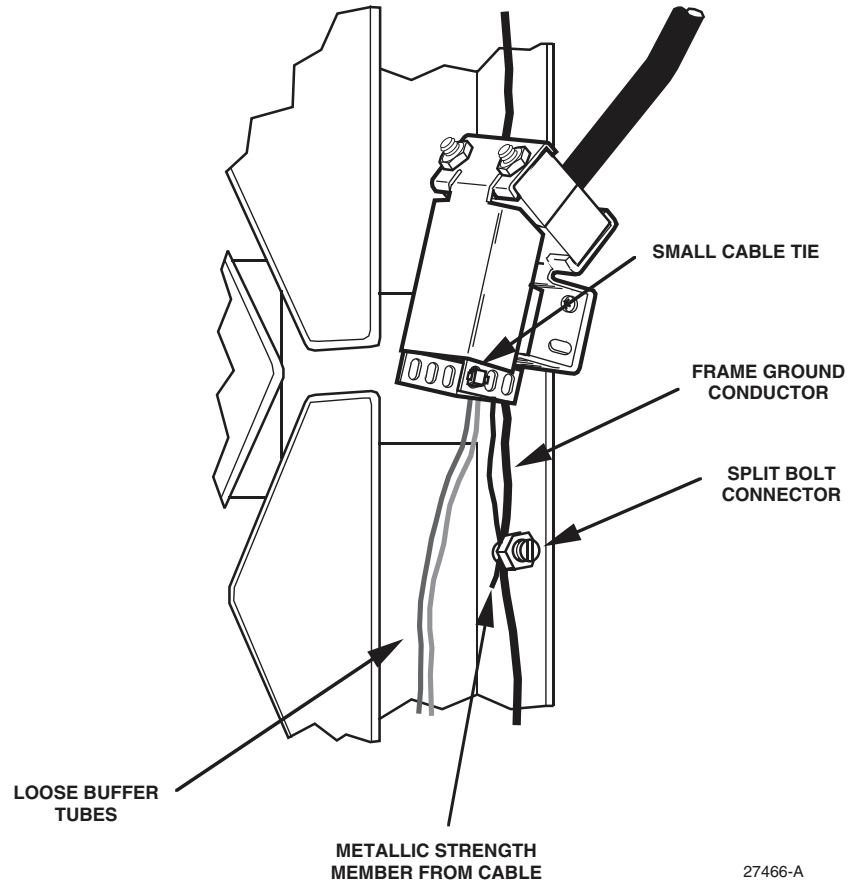

Figure 4. Installed Cable
12. If cable must be grounded, use the split-bolt connector to secure the metallic strength member or ground wire assembly to the frame ground conductor as shown in Figure 4.